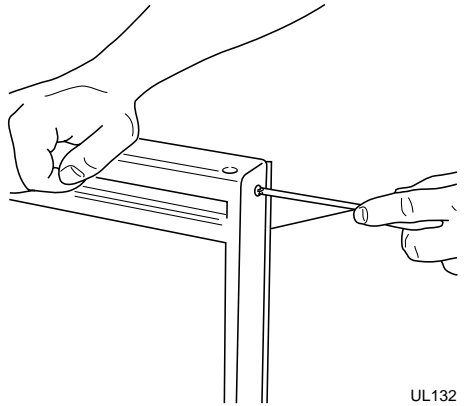

Figure 26
3. Remove two small screws holding door handle. Slightly separate door handle from door (see Figure 26).